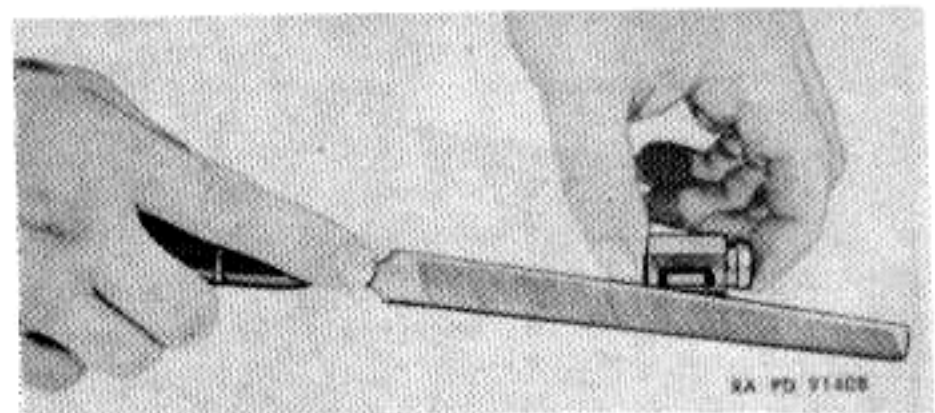

Figure 72. Filing rear sight base to fit undersize dovetail slot.
- (2) If reading is above 54 inch-pounds, file the bottom of the sight base as shown in figure 72. Do not attempt to file the edges of the sight base and under no circumstances should the receiver be filed.